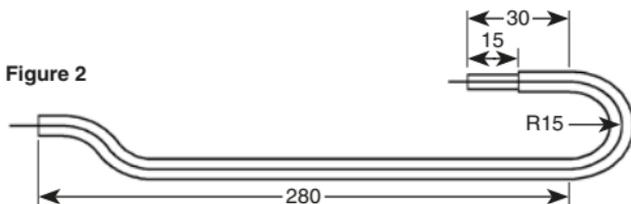

Figure 2
- Bend all conductors as per Figure 2 and trim the ends straight.